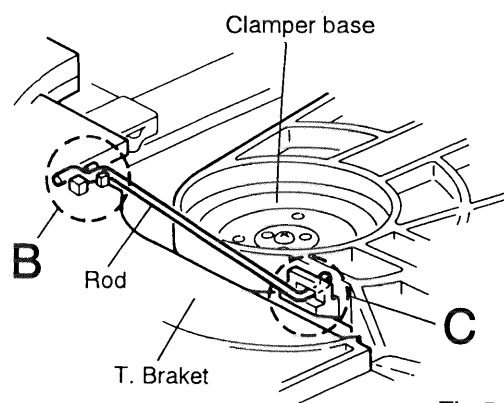

Fig.5-36
■ Removing the CD tray assembly (See Figs. 5-36~5-38)
4. From the T. bracket section "B" and clamber base section "C", remove both of the edges fixing the rod (See Figs. 5-36 and 5-37).